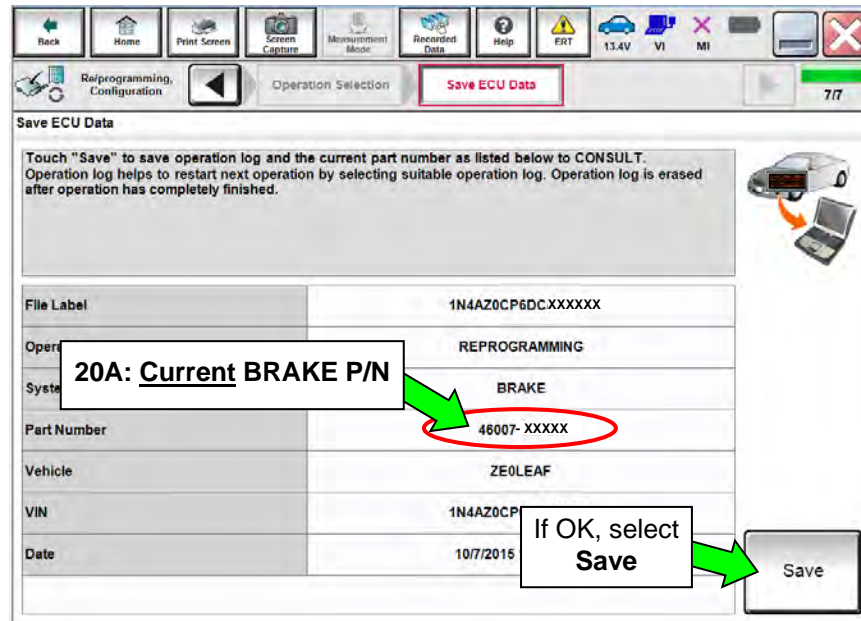

Figure 12
20. When you get to the screen shown in Figure 12: